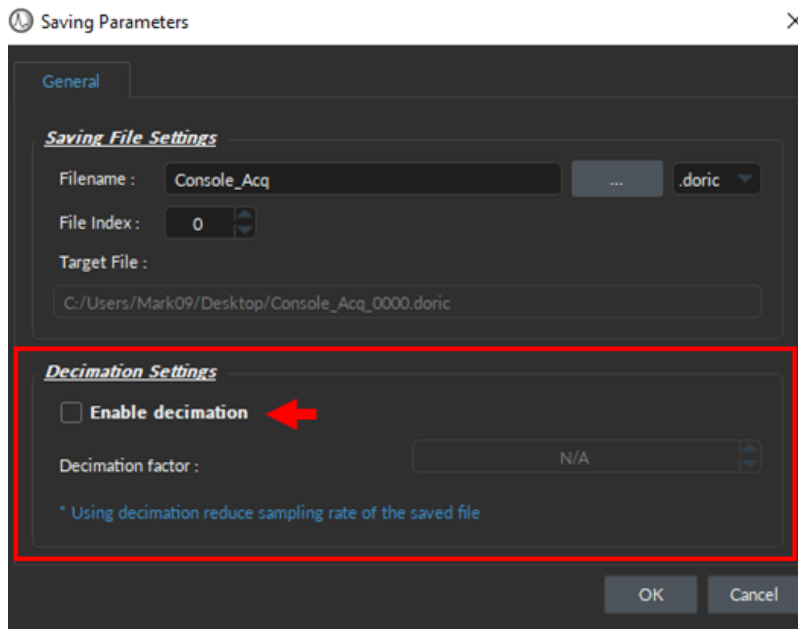

Figure 9.42: Enable/Disable the decimation factor that reduces Sampling Rate of the saved files
- **Note 1:** The saved file **effective sampling rate** is set to 5x the lowpass filter frequency, using a decimation factor (which can be disabled in Saving Options, see Fig. 9.42).